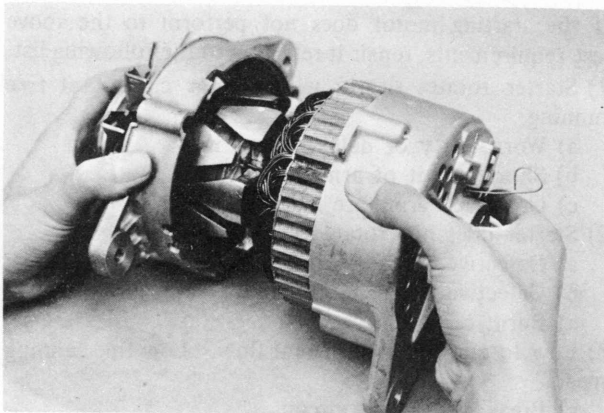

Fig. 5-24 Installing rotor assembly
1. When installing the rotor assembly to the rear housing and stator assembly, hold the brushes in position by inserting a piece of stiff wire into the hole of the brush through the rear housing as shown in Fig. 5-24.